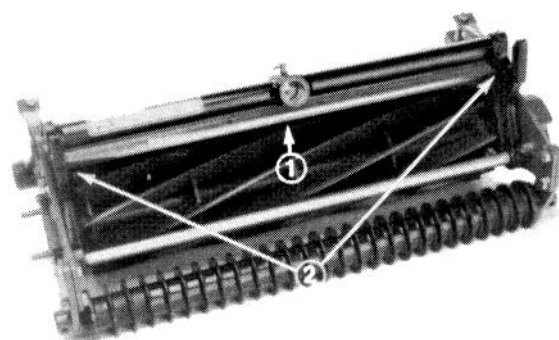

**Figure 2**
3. After the adjustment, check to see if the reel can pinch paper when it is inserted from the front and also cut paper when inserted at a right angle (Fig. 2). It should be possible to cut paper with minimum contact between the bedknife and the reel blades. Should excessive reel drag be evident, it will be necessary to either back lap or regrind the cutting unit to achieve the sharp edges needed for precision cutting (see Toro